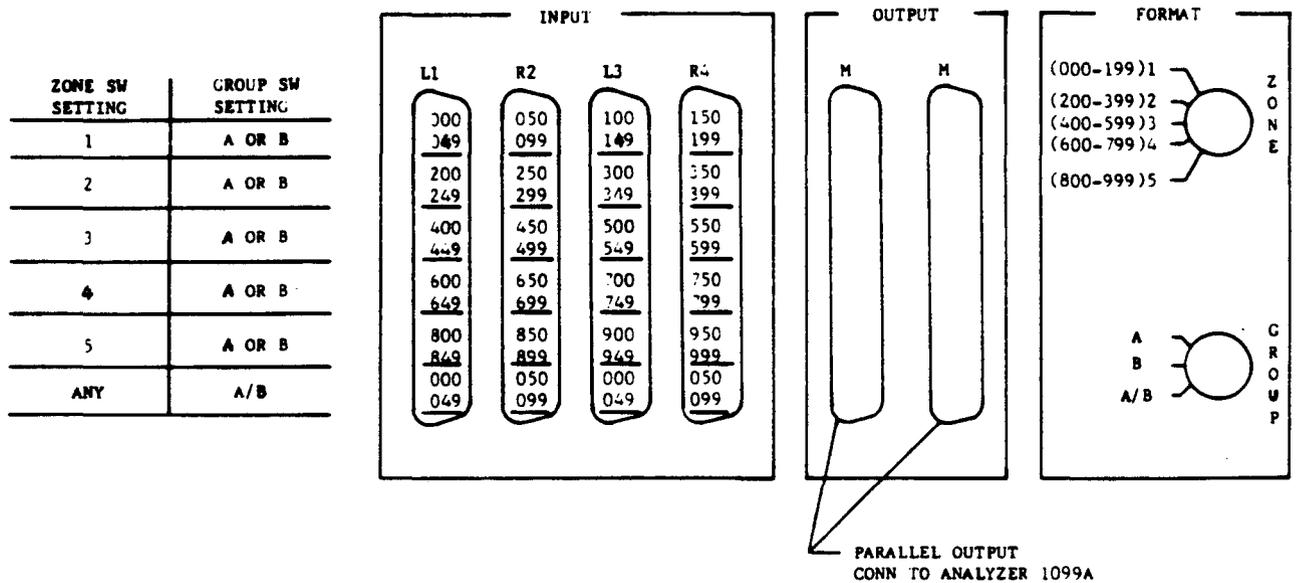

FIG. 6 INPUT NUMBERING SEQUENCE
2.412 This Encoder contains only one zone available for the input of 200 circuits. However, the zone range or band spread of 200 display numbers is selected by the operator with the ZONE switch. For a further view refer to Figure 6.